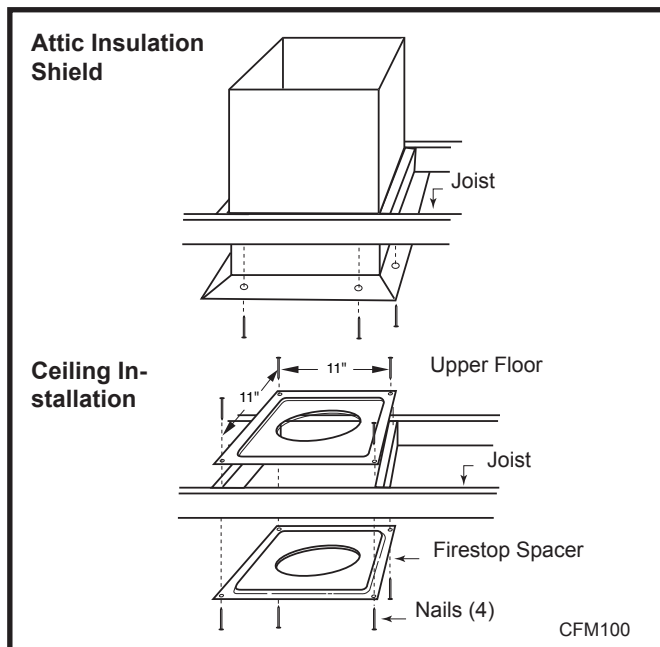

Fig. 57 Place firestop spacer(s) and secure.
6. Place firestop(s) #7DVFS or Attic Insulation Shield #7DVAIS into position and secure. (Fig. 57)